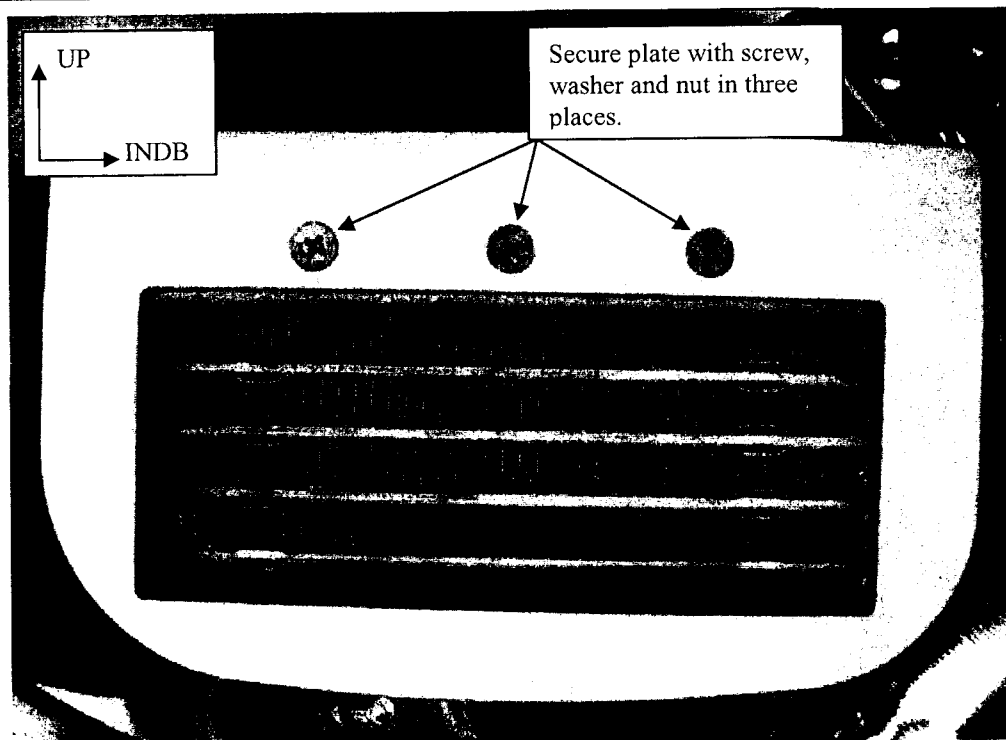

Figure 1: Oil Cooler Face Plate Installation
3. Install the oil cooler face plate assembly (P/N C41-7609-01-00) onto the face of the oil cooler as shown in Figure 1. Use the following hardware to secure the face plate assembly to the oil cooler: